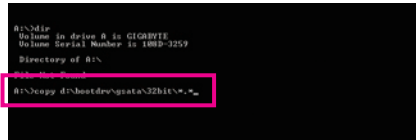

Figure 2
- For the GIGABYTE SATA2/JMicron JMB362, type (Figure 2):^(Note 2)